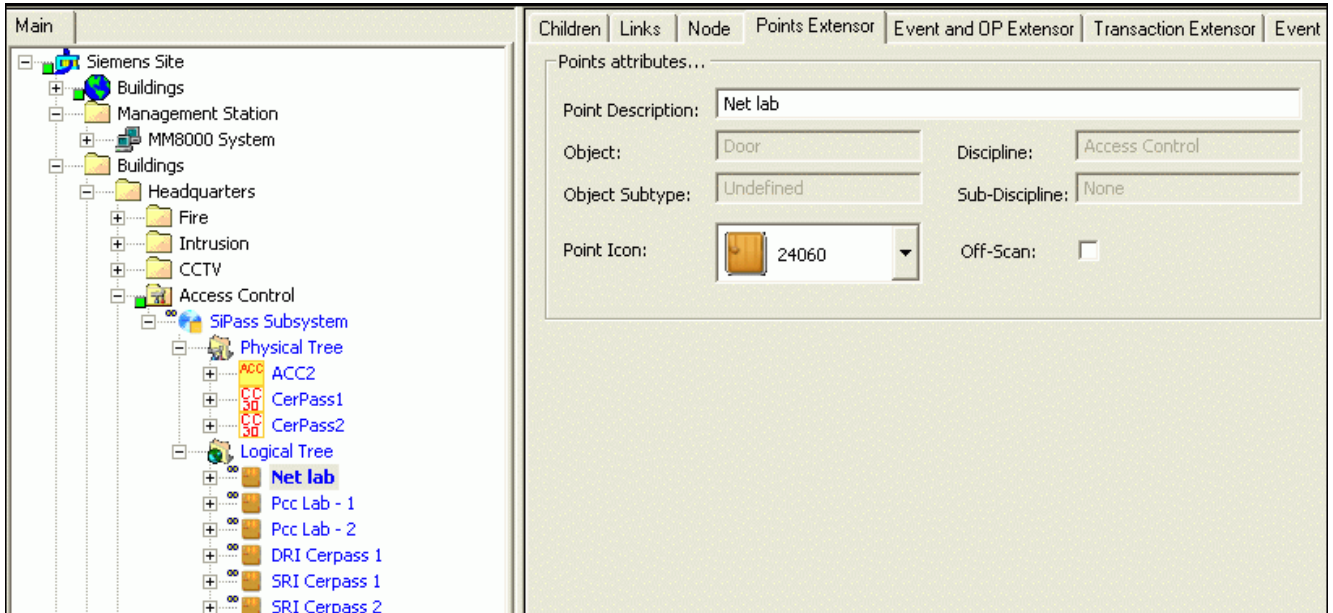

Fig 11 Customising individual SiPass points
- In the **Point Extensor** tab of each individual point, customise the description and icon (Fig 11).